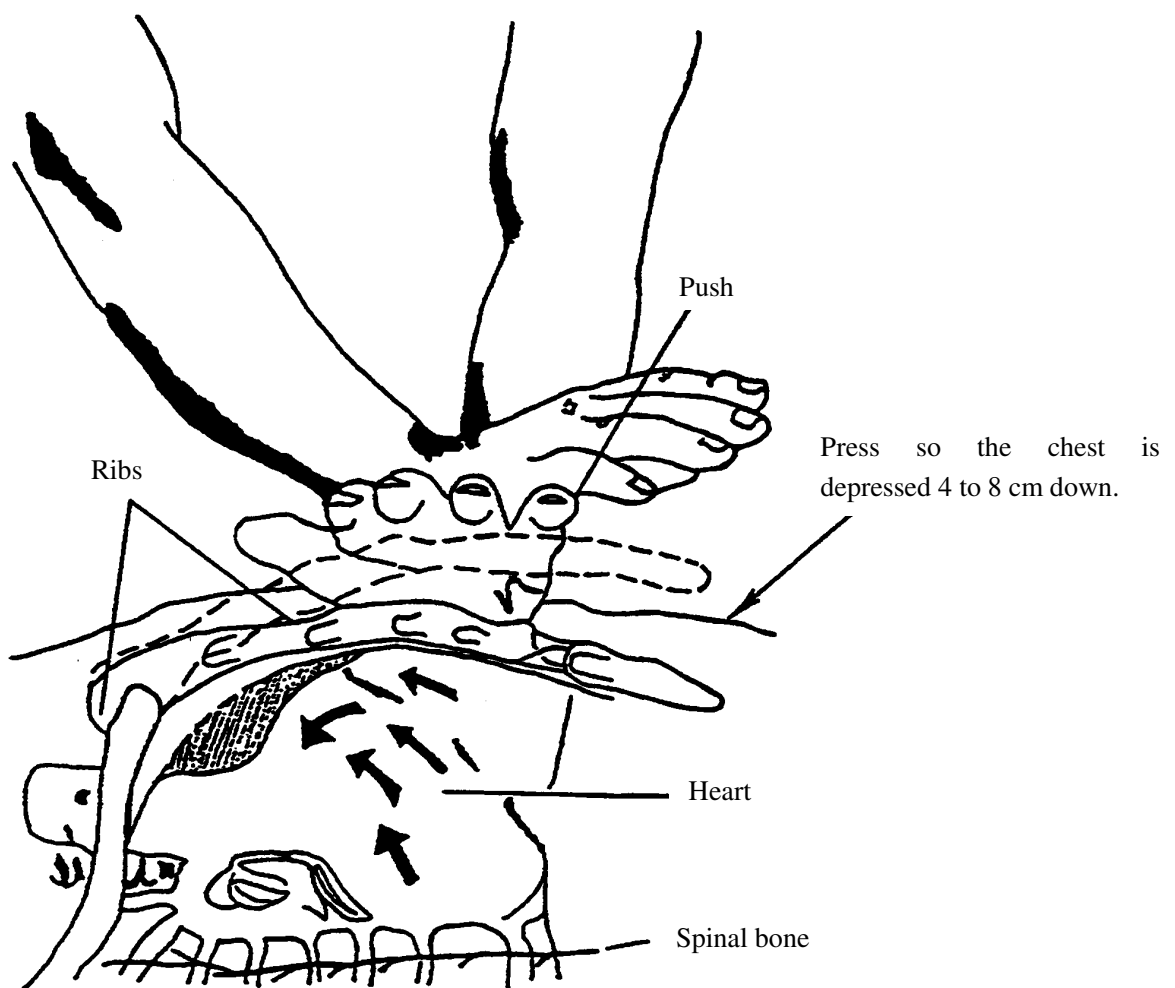

Figure 3 The Chest Depressed by Hands
- d. Without bending the elbow, press lightly with the weight of your body until the chest of the victim is depressed about 4 to 8cm and immediately release the hands. (Figure 3)